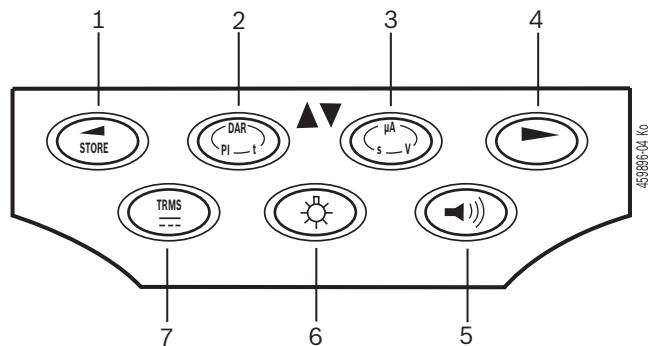

Fig. 3: FSA 050 function keys
LCD background illumination can be selected when the FSA 050 is switched on (Fig. 3, Pos. 6). The background illumination goes out automatically after 20 seconds.
The buzzer (Fig. 3, Pos. 5) can be activated for continuity measurement. The symbol appears on the LCD (Fig. 5, Pos. 4).
- With a Bluetooth communication, appears (Fig. 5, Pos. 2) on the LCD display for approx. one second after pressing the selection button ► (Fig. 3, Pos. 4).